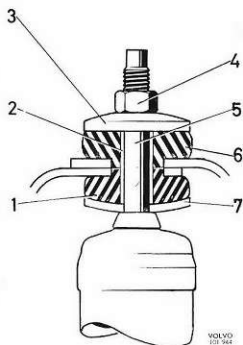

Fig. 7-7. Upper attachment, front shock absorber
3. Check the upper attachment for the shock absorber lower washer and rubber bush (7 and 1, Fig. 7-7). Place the shock absorber in position and tighten its attachment.
The front shock absorber upper attachment (Fig. 7-7) consists of a spindle (5), which is fixed into a housing in the front axle member with upper bushes (1 and 6), washers (3 and 7) and a spacing sleeve.
1. Remove the upper nut (4, Fig. 7-7), the washer (3) and the rubber bush (6).